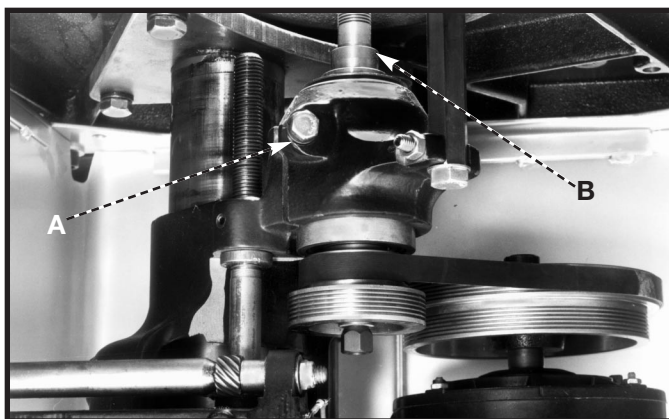

Fig. 37
1. **IMPORTANT:** When replacing the spindle cartridge (B) Fig. 37, loosen the bolt (A). Remove the spindle cartridge. Replace with a new spindle cartridge. Tighten the bolt (A) **ONLY** 7 to 10 foot pounds.